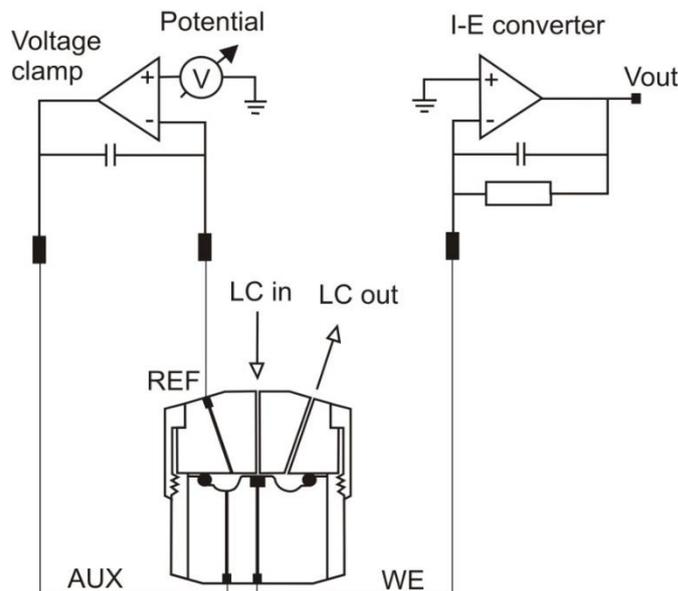

Fig. 9. Schematic representation of an electrochemical cell with a three-electrode configuration.
The circuitry of the DECADE Elite detector is designed for operation with electrochemical flow cells with a three-electrode configuration (Fig. 9). The working potential is set between the working electrode (WE) and the auxiliary electrode (AUX). The AUX is kept at a precisely defined reference electrode (REF) potential by means of the so-called voltage clamp. This is an electronic feedback circuit that compensates for polarization effects at the electrodes.